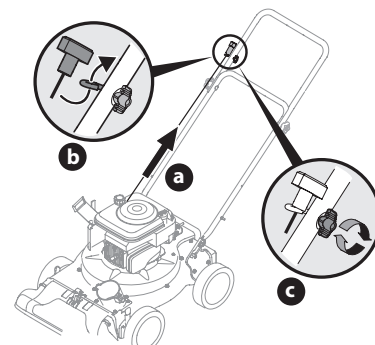

Figure 3
- b. Slip the starter rope into the rope guide. See Figure 3.